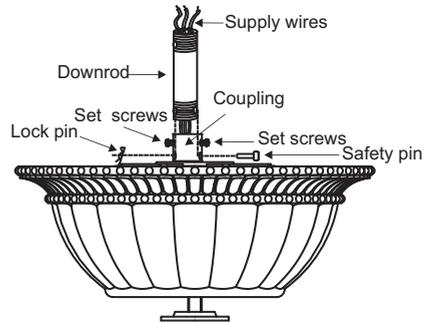

Fig. 11
4. Loosen the two set screws in the motor coupling until the inside channel is clear of the screws. Remove the Safety Pin and Locking Clip in the top of the motor coupling. (Fig. 11)
5. Carefully feed the fan lead wires up through the downrod. Thread the downrod into the motor coupling until the Safety Pin holes are aligned. (Fig. 11)
Next, replace the Safety Pin and secure with the Locking Clip. Securely tighten both set screws. (Fig. 11)